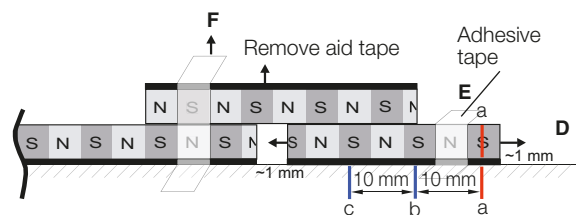

Fig. 4-10: Make three marks a, b, and c
5. Slide the second tape M2 under the aid tape in both directions until you find the area with the maximum attraction. Fasten tape M2 in this stable position using adhesive tape. Remove the aid tape (Fig. 4-10). M1 and M2 are now aligned polysynchronous.
6. Mark tape M2 and the machine part at any position (a) (Fig. 4-10). Starting from this mark, in the direction of the joint make two further marks (b and c) at a distance of 1 pole pair each (10 or 20 mm) just on the machine part.